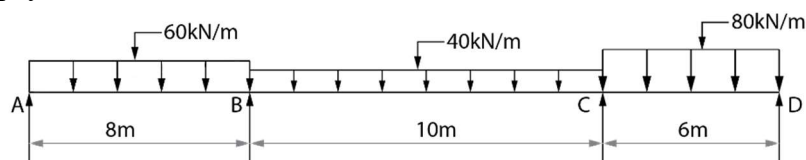

FIG. NO. 1
- ii. Analyse the continuous beam shown in the Fig. No. 1 using Clapeyron's theorem of three moments. **8**